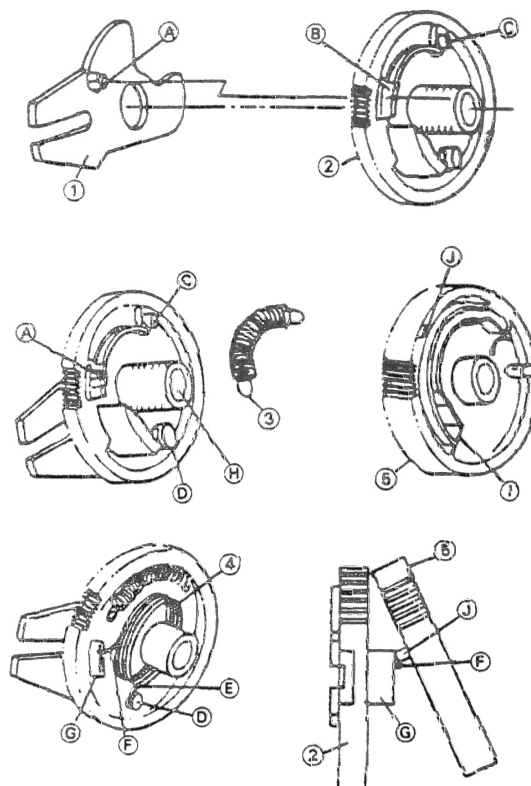

Figure 1-3.
• **Set up of worm wheel assembly (Fig. 1-3)**
1. Put the tab (A) of the drive (1) into the hole (B) of the drive gear (2).
2. Hook both ends of the drive spring (3) onto the tab (A) of the drive arm and tab (C) of the drive gear respectively.
3. hook one end (E) of the drive reciprocating spring (4) onto the tab (D) of the drive gear assembly and mount another end (F) of the drive reciprocating spring onto the tab (G) of the drive gear: this time, hold the end (F) of the drive reciprocating spring by hand.
4. Fit the tab worm wheel gear (5) onto the tag (6) of the drive gear.
5. Using a tapered screwdriver, hook the end (F) of the drive reciprocating spring onto the tab (J) of the worm wheel gear: check that both ends of the drive reciprocating spring have been engaged with the respective tabs of the drive gear assembly.
6. holding the drive gear by hand, turn the worm wheel gear by the other hand counterclockwise. Then tab (C) of the drive gear will be engaged with the hole (I) of the worm wheel gear (5).